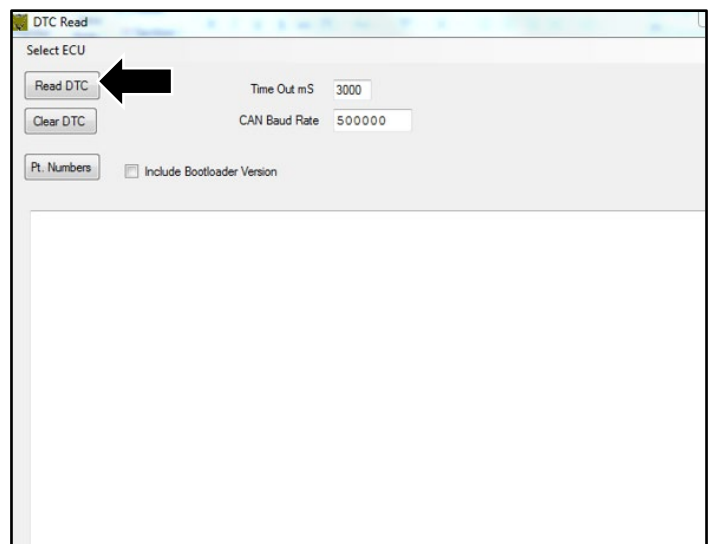

Figure 23
35. In the “DTC Read” window, click the ‘Read DTC’ button, (refer to Figure 23).